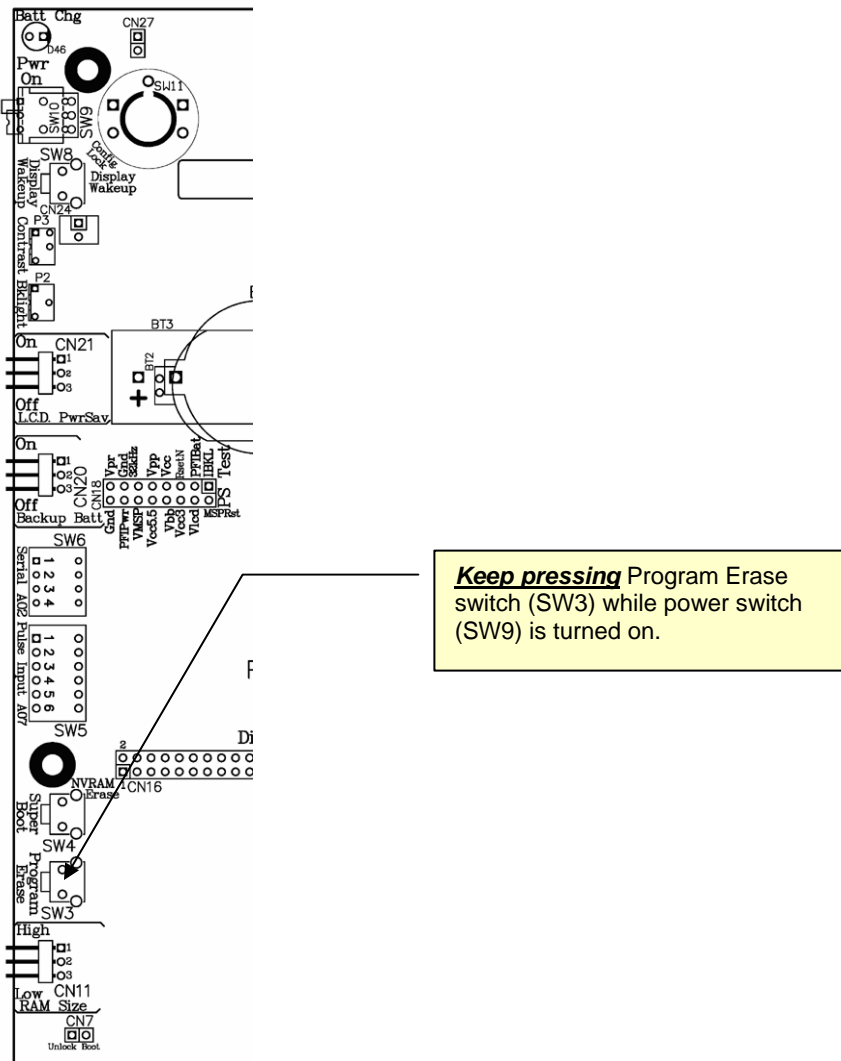

Figure E.2—Location of *Program Erase* switch
5. With the *Power* switch (SW9) in the “ON” position, press and hold the Program Erase button (as show in Figure E.2) on the main circuit board to erase the existing Scanner firmware.